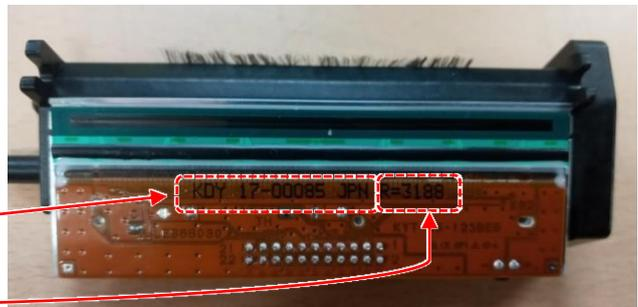

Figure 93 Printer head
1. Check the serial number and the resistance of new TPH as figure 93.